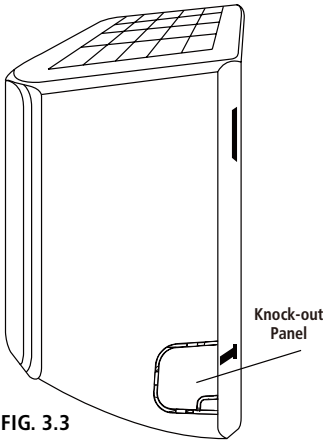

FIG. 3.3
- If the wall hole is behind the unit, keep the knock-out panel in place. If the wall hole is to the side of the indoor unit, remove the plastic knock-out panel from that side of the unit. (See FIG. 3.3). This will create a slot through which your piping can exit the unit. Use needle nose pliers if the plastic panel is too difficult to remove by hand.